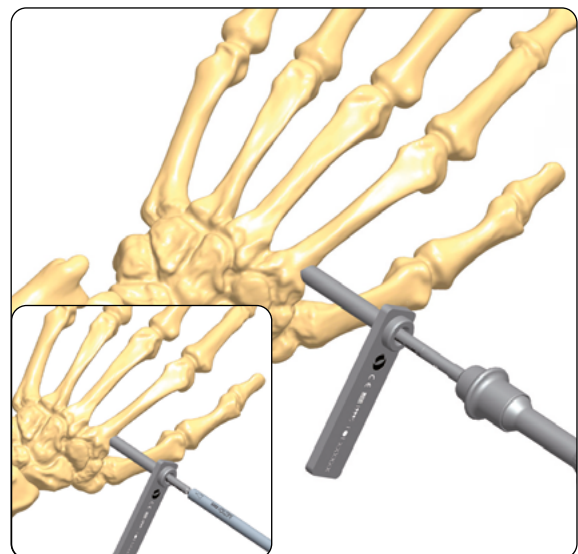

Fig. 5
- Remove the trocar and insert the screws directly through the screw guide without pre-drilling. In case of the 4mm cylindrical screws, they are inserted using either the Screw T-Wrench QC (93160) or power drill with moderate speed. In case of the 3mm or 4mm shaft conical screws, they are inserted using either the T-Wrench (M210) or power drill with moderate speed (**Fig. 5**)